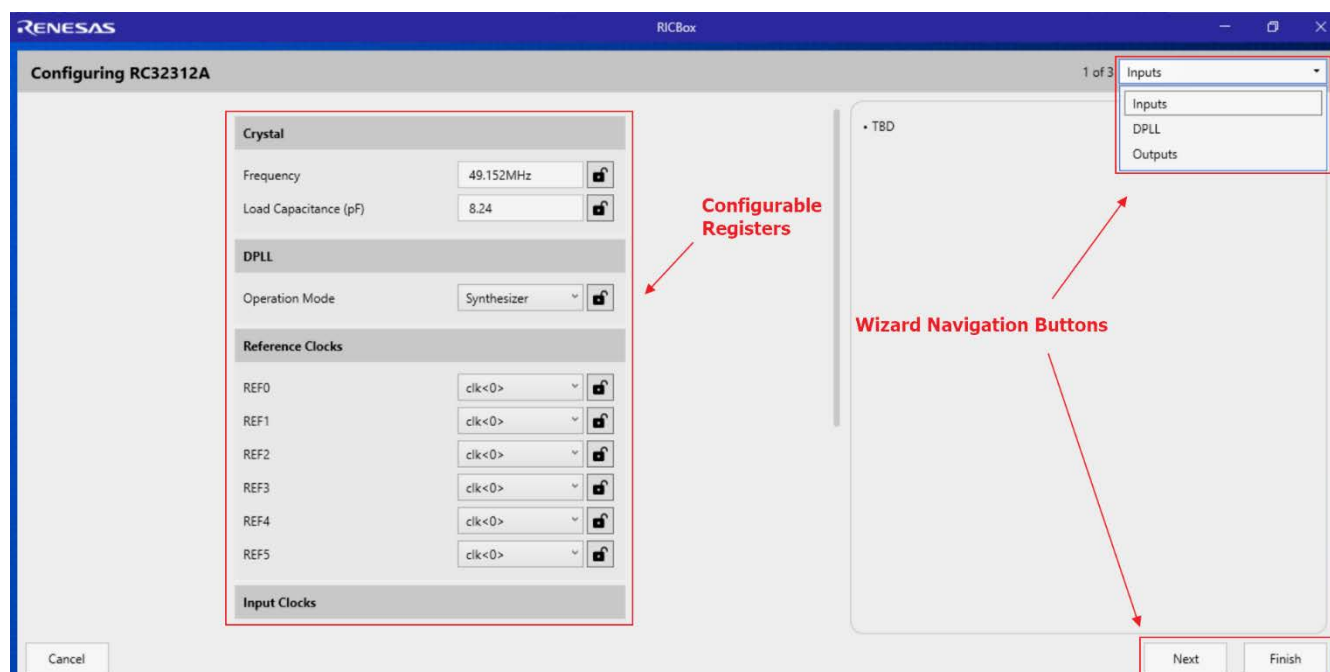

Figure 28. RICOBox Wizard Navigation
- Follow the on-screen wizard (see Figure 28) to configure the device for general evaluation starting from “Inputs”, then “DPLL”, and finally “Outputs”.